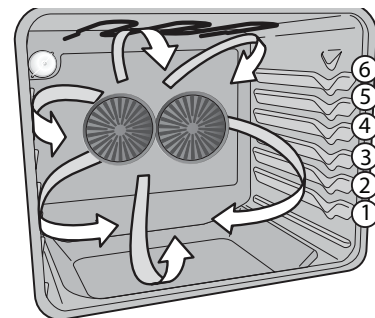
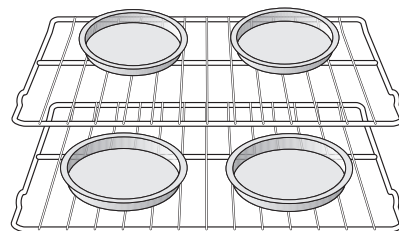

Figure 16: Convection air flow
Figure 17: Pan spacing suggestion
This mode of cooking enables you to obtain the best results when baking with multiple pans and racks. The oven can be programmed for convection baking at any temperature between 170°F to 550°F. The convection function uses a fan to circulate the oven heat uniformly and continuously around the oven (Figure 16). This improved heat distribution allows for fast, even cooking and browning results. It also gives better baking results when using two oven racks at the same time.
- For best results when baking cakes using two oven racks, place flat rack in position 5 and the glide rack in position 1 (See Figure 16). When baking using two oven racks, position cookware as shown in Figure 17. Allow at least 2 inches (5 cm) of space between cookware for proper air circulation.